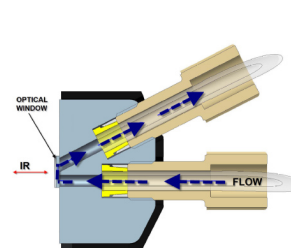

Figure 3: Flow direction (Fittings are Omnifit style 1/4-28)
4. Connect your tubing to the flow cell head with the flow direction as shown in **Figures 3, 4, and 5**. Input must flow straight into the center of the flow cell head.